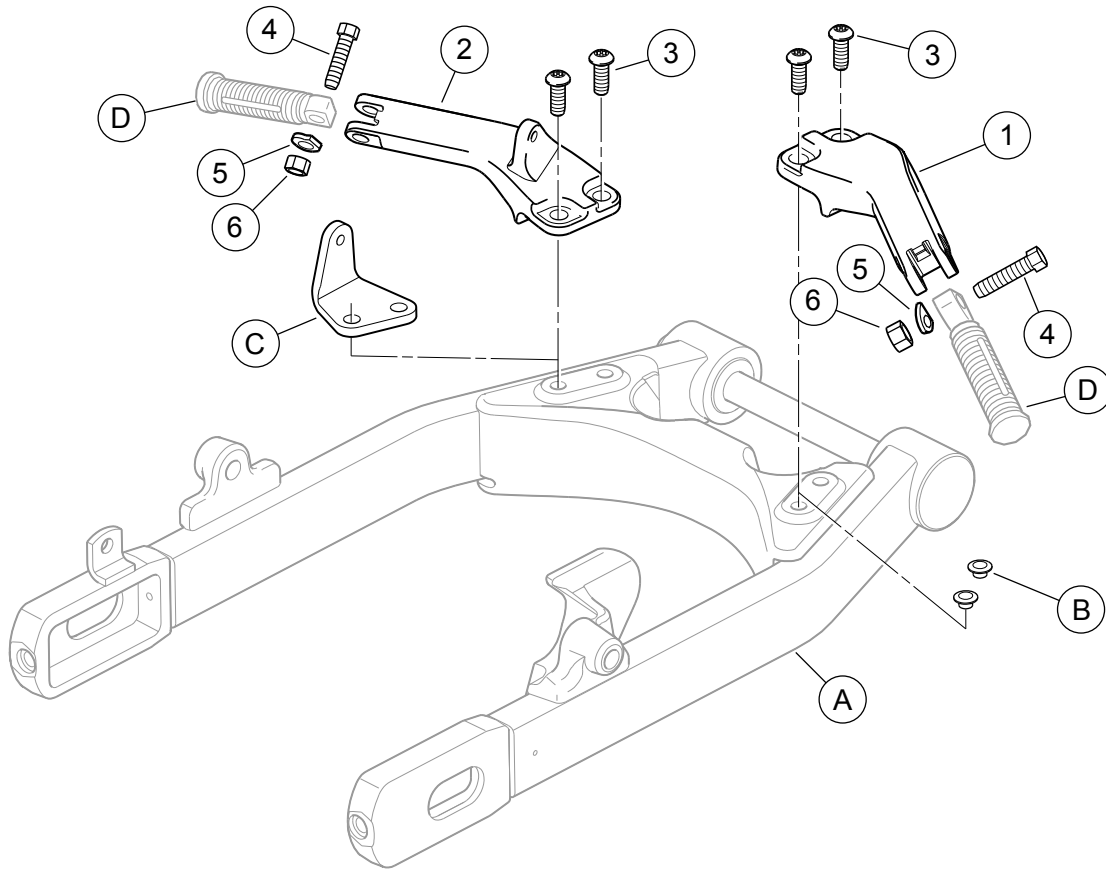

Figure 5. Service Parts, Passenger Footpeg Mounting Kit
See Figure 5 and Table 1.
6. Remove the two hex head cap screws (4) that attach the belt guard mounting bracket (5) to the rear fork. The bracket and screws can be discarded.
7. See Figure 5. Obtain the left-side footpeg support (2) and two self-tapping screws (3) from the kit. Install the support to the mounting location as shown, and torque the screws to 25-35 ft-lbs (34-47 Nm).
1. See Figure 5. Install a passenger footpeg (purchased separately) on each footpeg support as shown, using a hex head cap screw (4), spring washer (5) and lock nut (6) from the kit.